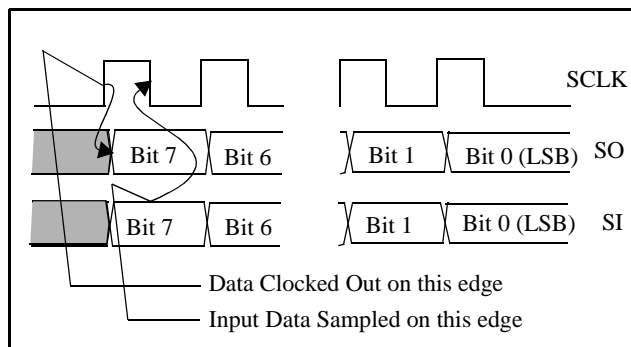

Figure 3-41 MICROWIRE Alternate SCLK Mode Timing Diagram
Access.bus is a two wire interface that allows bidirectional communications between ICs. The two interface lines are the serial data line (SI), and the serial clock line (SCLK). Access.bus system configuration examples are shown in Figures 3.41 and 3.42. As illustrated, Access.bus supports multiple masters and multiple slaves.
As shown in Figures 3.41 and 3.42, it is possible to have more than one master on the bus. Because of this, an arbitration protocol has been included in the Access.bus implementation. The arbitration protocol depends on a wired-AND connection to the devices on the bus and clock synchronization. If two or masters attempt to start a transfer at the same time, the master transmitting to the lowest address will win the arbitration.